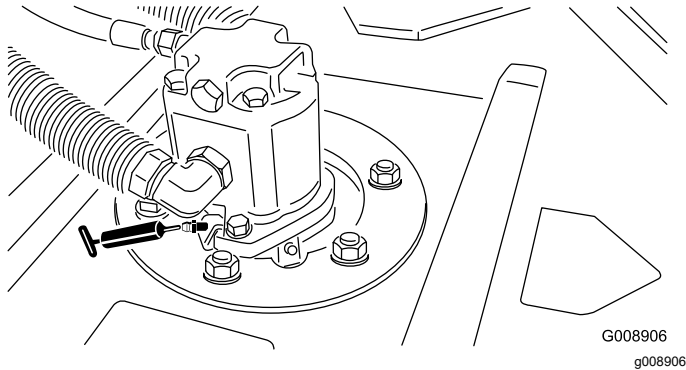

Figure 71
- Cutting unit spindle-shaft bearings (2 per cutting unit)—Figure 71